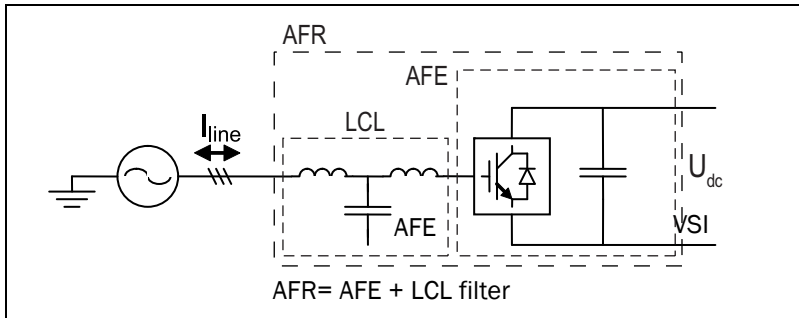

Fig. 3 AFR
AFR consists of Emotron power electronic module (AFE) connected to grid through LCL filter as shown in Fig. 3. The main objective of the Emotron AFR is to rectify the supply AC voltage into the DC voltage to be fed to or regenerated from the VSIs (motor inverter). It also keeps the harmonic content of the current exchanged with grid at low level, maintaining the THD(I) below 5%. AFR offers standard AFE functionality such as: